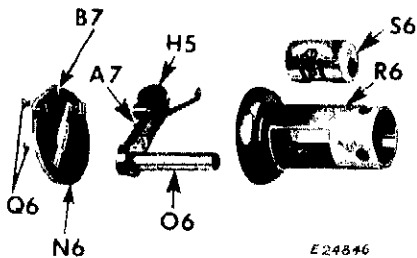

Fig. 133. Exploded View of Bearing Sleeve
See Figs. 133 and 134.
1. Slip eccentric **S6** into bearing sleeve **R6**, as shown in Fig. 133.